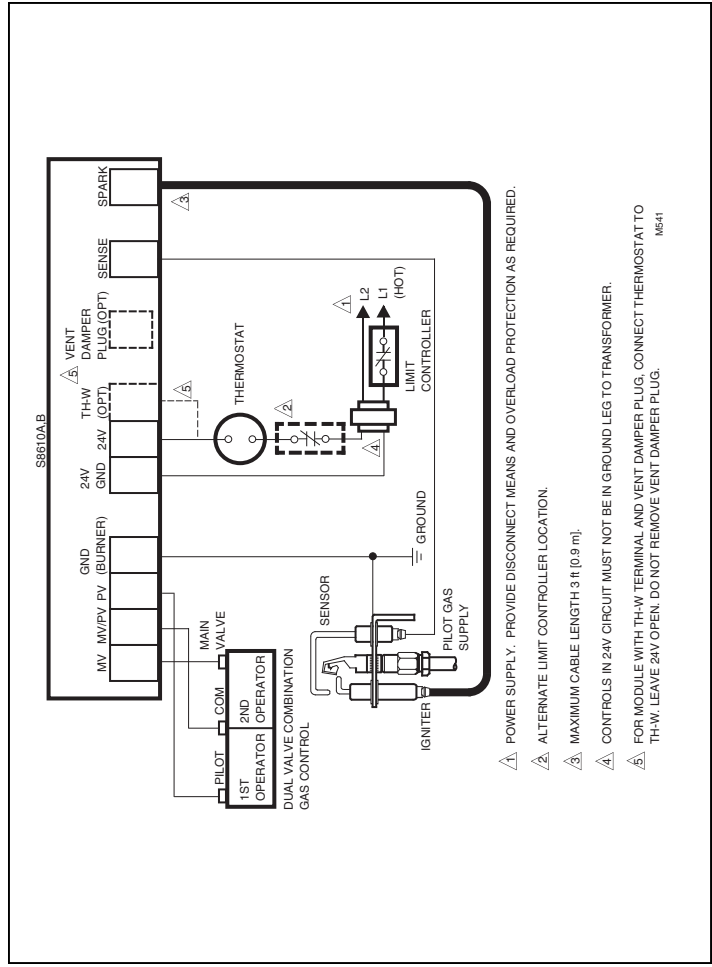
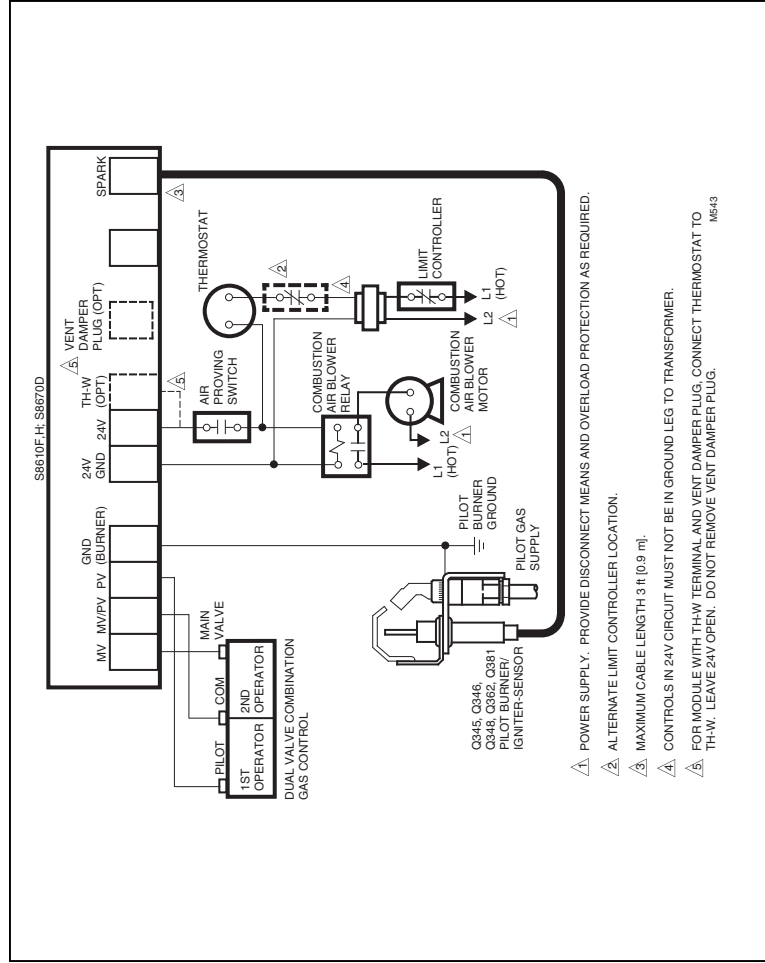

Fig. 4—S8610A,B in a heating system with an atmospheric burner.
Fig. 6—S8610F,H; S8670D in a heating system with power-assisted combustion.
- Figs. 4 and 5 show S8610A,B with separate sensor and igniter, with and without the D80D Vent Damper.
- Figs. 6 through 11 show S8610F,H and S8670D in a variety of systems with alternate connections for modules with vent damper plug. Remember, however, that a vent damper should not be used in a fan-assisted combustion system or an LP gas system and that the vent damper plug must not be removed except to connect the module to a D80D with the plug-in cable. S8610A,B can be substituted in these drawings by simply connecting the igniter and sensor as shown in Figs. 4 and 5.